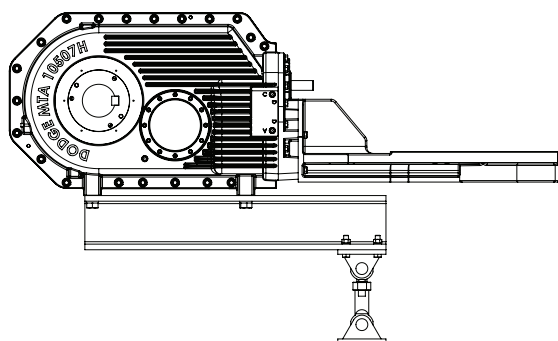

Figure 7 - Beam Mounted Correctly
1. To install the beam to the reducer, use appropriate lifting equipment properly designed to safely lift the beam into position. The beam should extend toward the motor end of the reducer, Figure 7. Improper mounting direction (Figure 8) will result in increased forces on the driven shaft and may result in damage to the gearbox or the driven equipment.